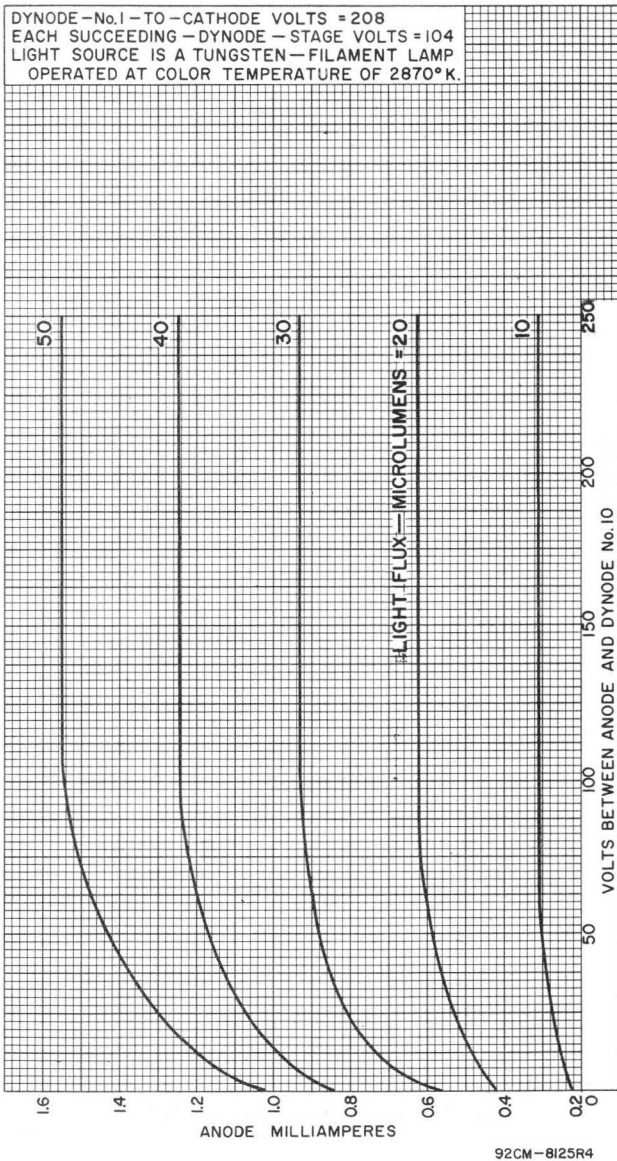

Fig. 4 - Average Anode Characteristics of Type 6342A.
- g An output current of opposite polarity to that obtained at the anode may be provided by using dynode No.10 as the output electrode. With this arrangement, the load is connected in the dynode-No.10 circuit and the anode serves only as a collector. The average anode characteristics shown in Fig.4 do not apply when dynode number 10 is used as the output electrode.
- k For maximum signal-to-noise ratio, operation with a supply voltage (E) below 1250 volts is recommended.
- m Measured at a tube temperature of 25° C and with a supply voltage (E) adjusted to give a luminous sensitivity of 20 amperes per lumen. Dark current may be reduced by use of a refrigerant.
- p Under the following conditions: Supply voltage (E) is as shown, 25° C tube temperature, external shield connected to cathode, bandwidth 1 cycle per second, tungsten-light source at a color temperature of 2870° K interrupted at a low audio-frequency to produce incident radiation pulses alternating between zero and the value stated. The "on" period of the pulse is equal to the "off" period.